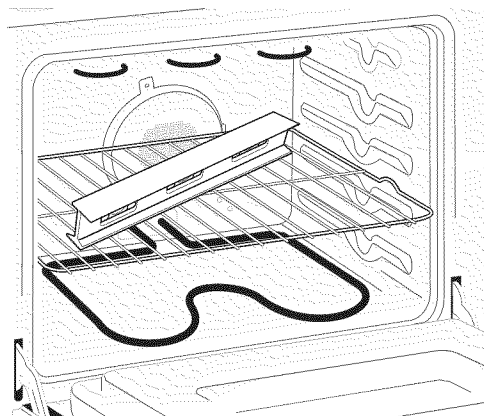
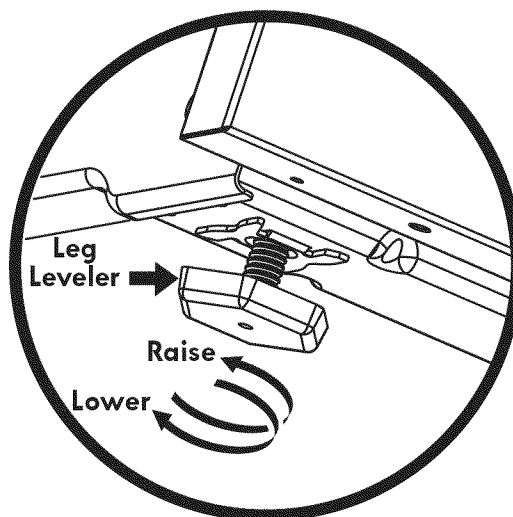

Figure 9
Figure 10
2. Place a level on the rack (see Figure 9). Take 2 readings with the level placed diagonally in one direction and then the other. Level the range, if necessary, by adjusting the 4 leg levelers with a wrench (see Figure 10).